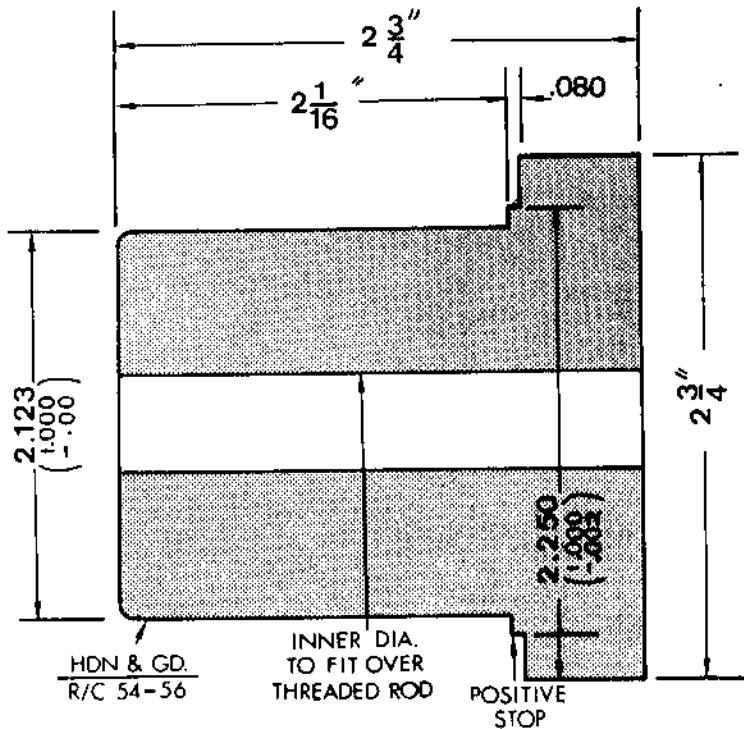

Figure 65 — Bearing Installation Tool
1. Bearing installation tool is illustrated in Figure 65.